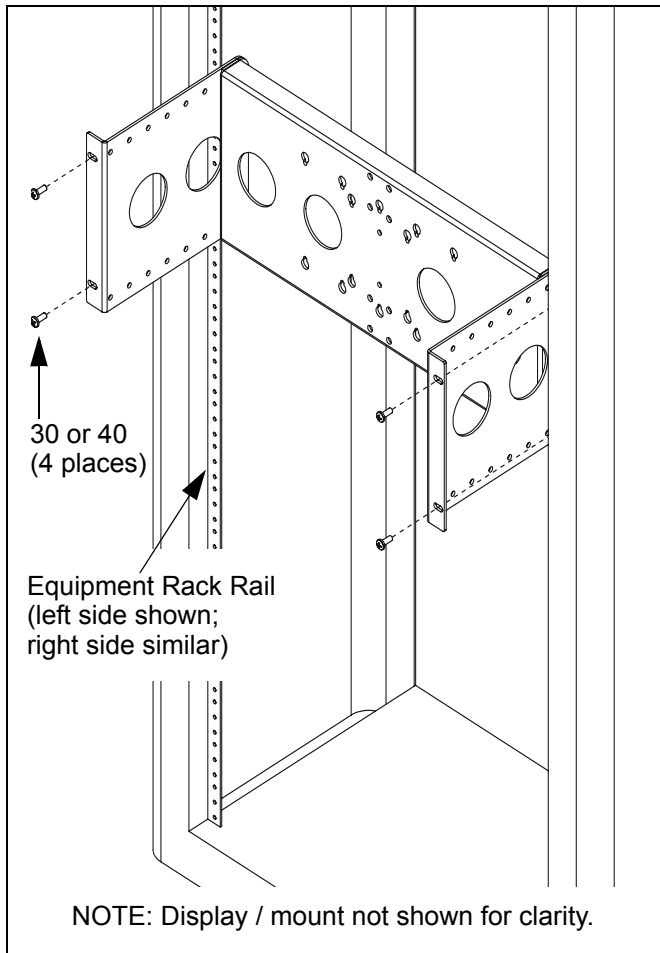

Figure 10: Install FSA-1015 to Equipment Rack
1. Using Phillips screwdriver install FSA-1015 assembly to equipment rack using four screws (30, 40, or other fasteners as applicable)(See Figure 10). Tighten fasteners.